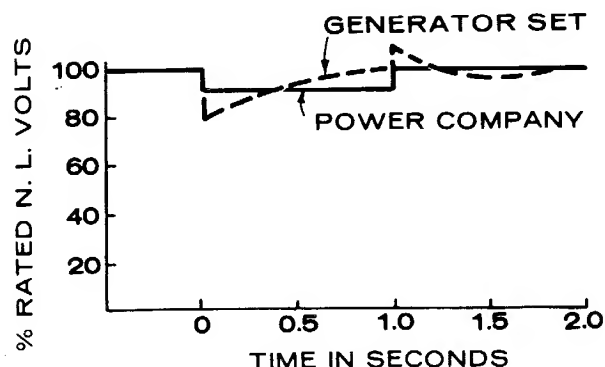

FIGURE 3. VOLTAGE DIP OF GENERATOR SET AND UTILITY POWER
1. The operator must realize when the X-ray equipment is powered by the generator set, the picture may be different than when powered by the commercial utility line. Figure 3 shows the stability of the power line during the X-ray, but the generator set has a greater voltage dip and also attempts to regulate during the X-ray.